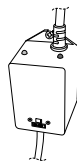

FIGURE 8
20. Once power is activated you can check the ballast (12), Figure 8, to see if the ClearRay System is functioning; it has two LED indicator lights the green indicating incoming power flow and the red indicating the system is properly working.